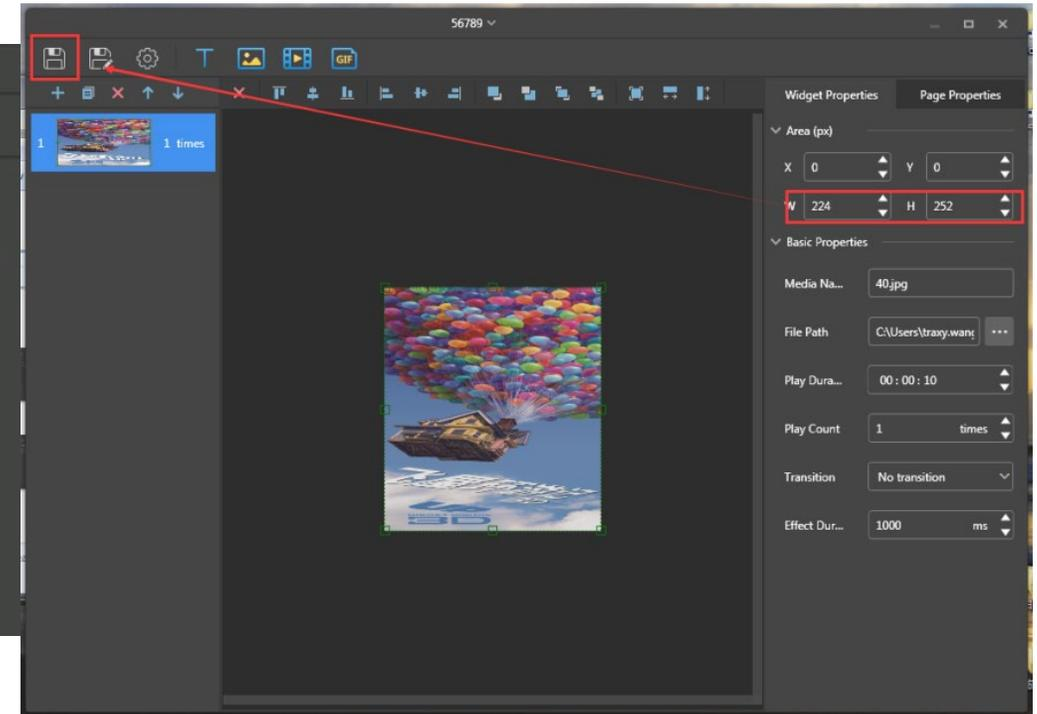

fig 7.8
g. Once finish, click  to save the playlist, refer to fig 7.8.